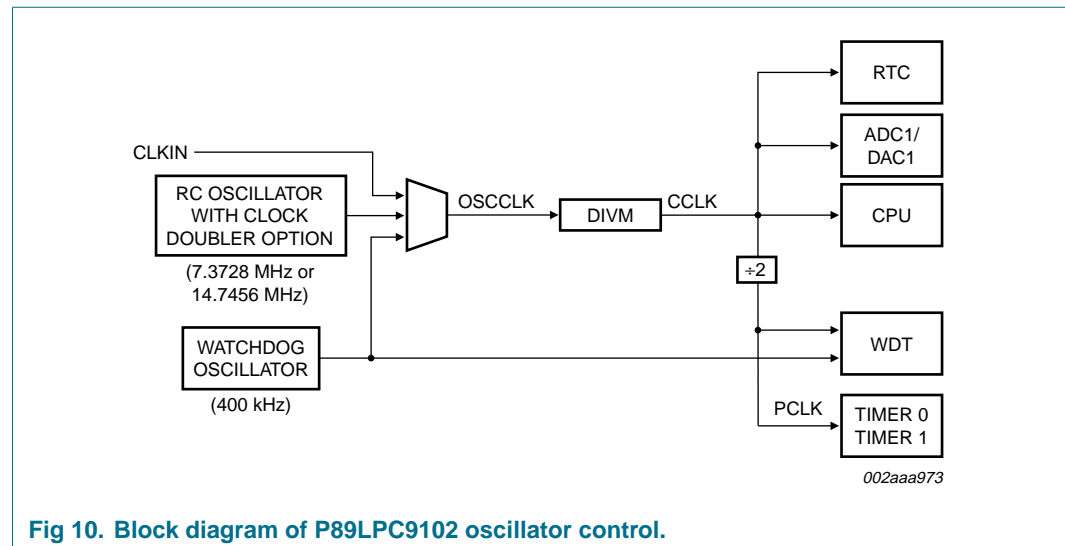

Fig 10. Block diagram of P89LPC9102 oscillator control.
**OSCCLK** — Input to the DIVM clock divider. OSCCLK is selected from one of the clock sources (see Figure 10 “Block diagram of P89LPC9102 oscillator control.”) and can also be optionally divided to a slower frequency (see Section 8.8 “CLK modification: DIVM register”).